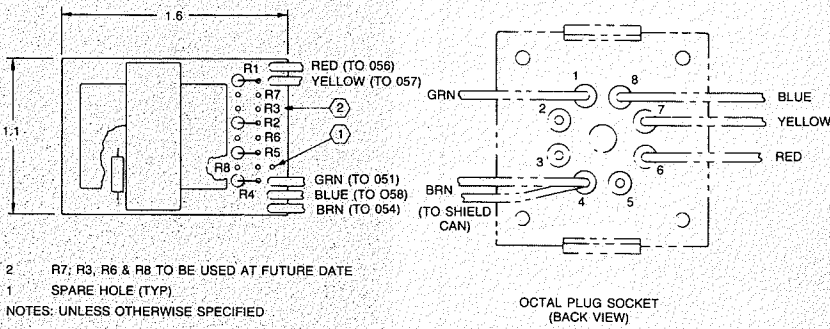

FIGURE 1 — Component Layout
2. Desolder (and save) the four jumpers installed at locations at locations R1, R2, R4, and R5. Refer to the component layout in Figure 1.
3. Install the appropriate resistor values from Tables 1a, 1b, 1c, or 1d into their designated positions on the circuit board. Refer to Figure 1 for details.